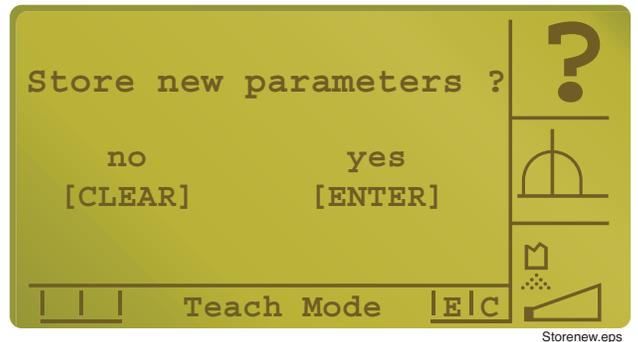

Figure 35
18. The procedure is the same for all functions, so activate the “I” switch and move to the next function until you have completed all parameter settings. Any time you have entered information and then change the position of the local/remote switch, the controller will first ask if you want to store the new parameters (Figure 35).